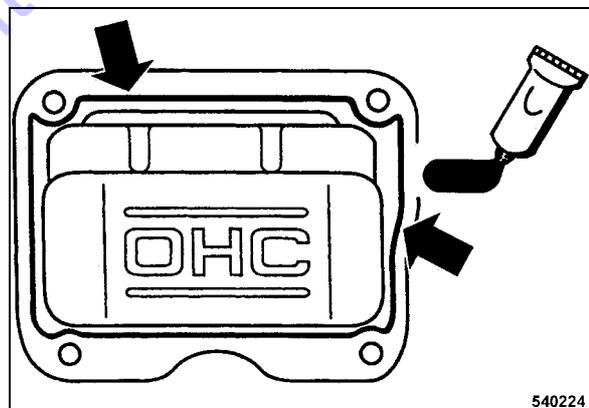

Fig. 51
- Apply a bead of liquid gasket (Three Bond 1207B or similar) with a diameter of approx. 1.5 to 2 mm (0.06 to 0.08 in) to the inside of the cylinder head cover (Fig. 51).